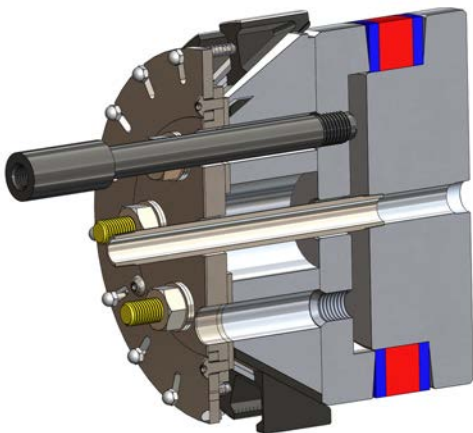

Figure 21: Inserting and Threading Lifting Standoffs into the Plug
12.1 Insert the **Lifting Standoffs(26)** into the two holes located on top of the **Spring Plate Hub(18)**. Hand tighten both **Lifting Standoffs(26)** until they bottom out, see Figure 21.